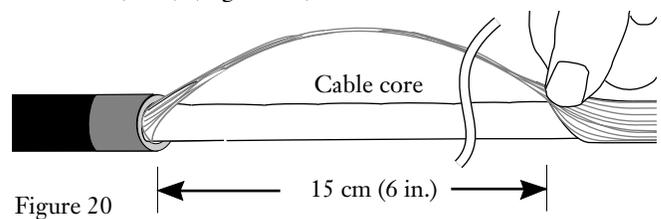

Figure 20
7.1 Starting near the tape mark, pull the yarn away from the cable core until the core is exposed for a length of 15 cm (6 in.) (Figure 20).